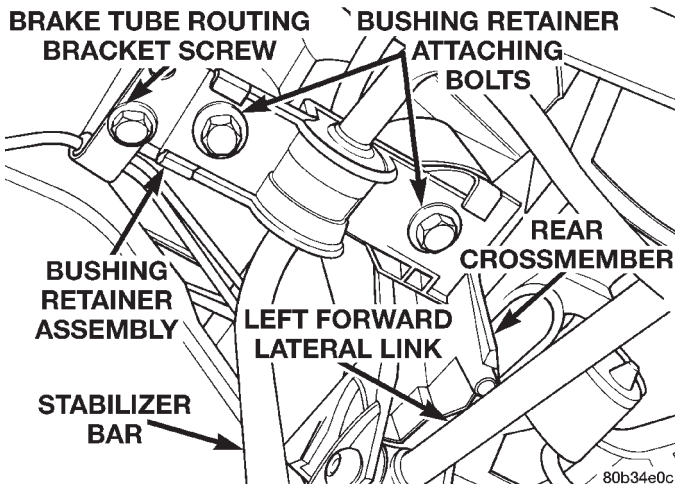

Fig. 34 Bushing Retainer Attachment
(3) Remove the screw securing the brake tubes to the left stabilizer bar isolator bushing retainer (Fig. 34).
(4) Remove the 2 bolts attaching each of the 2 stabilizer bar isolator bushing retainers to the frame rails (Fig. 34) (the 2 rearward attaching bolts also attach the front corners of the rear suspension cross-
(5) Using a pair of pliers, bend the retainer tabs on the upper retainer half around the lower retainer half, securing the two halves together.
(6) Remove the stabilizer bar from the vise, and repeat the preceding 5 steps to install the second bushing and retainer on the other side of the stabilizer bar.
(7) Position the rear stabilizer bar in position between the frame rails. Install the 4 bolts attaching both stabilizer bar isolator bushing retainers to the frame rails (Fig. 34) (the 2 rearward attaching bolts attach the front corners of the rear suspension crossmember in place). Tighten the forward stabilizer bar isolator bushing retainer attaching bolts to 40 N·m (30 ft. lbs.). Tighten the 2 rearward stabilizer bar isolator bushing retainer attaching bolts (which also serve as the forward rear crossmember attaching bolts) to 100 N·m (75 ft. lbs.).
(8) Install the screw securing the brake tubes to the left stabilizer bar isolator bushing retainer (Fig. 34).